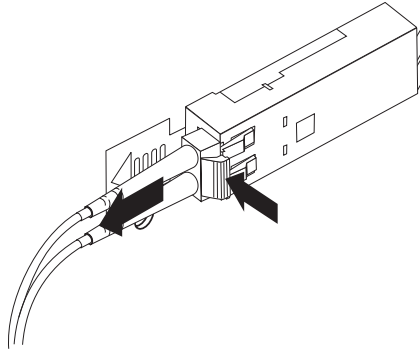

Figure 36. Removing the LC-LC Fibre Channel cable
2. Carefully pull on the connector to remove the cable from the SFP module, as shown in Figure 36 on page 59.